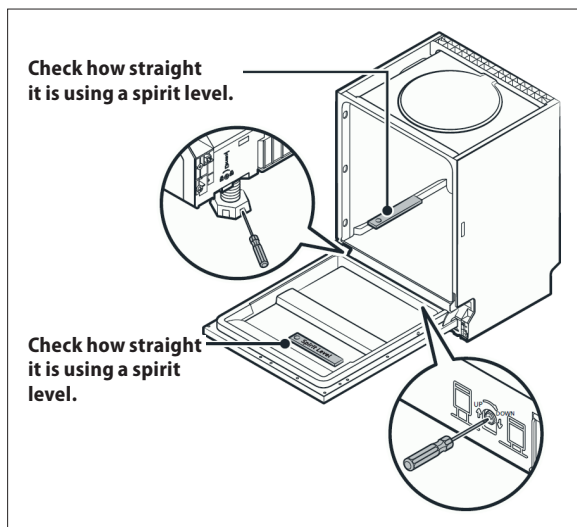

Fig. 16
8. Use the feet at the front and back of the appliance to level it to a horizontal position. Adjust the back feet by turning the screw on the bottom of the front side of the appliance (step 5). Adjust the front feet by turning screws located near the feet themselves (step 5B). Use a spirit level (Fig. 16).